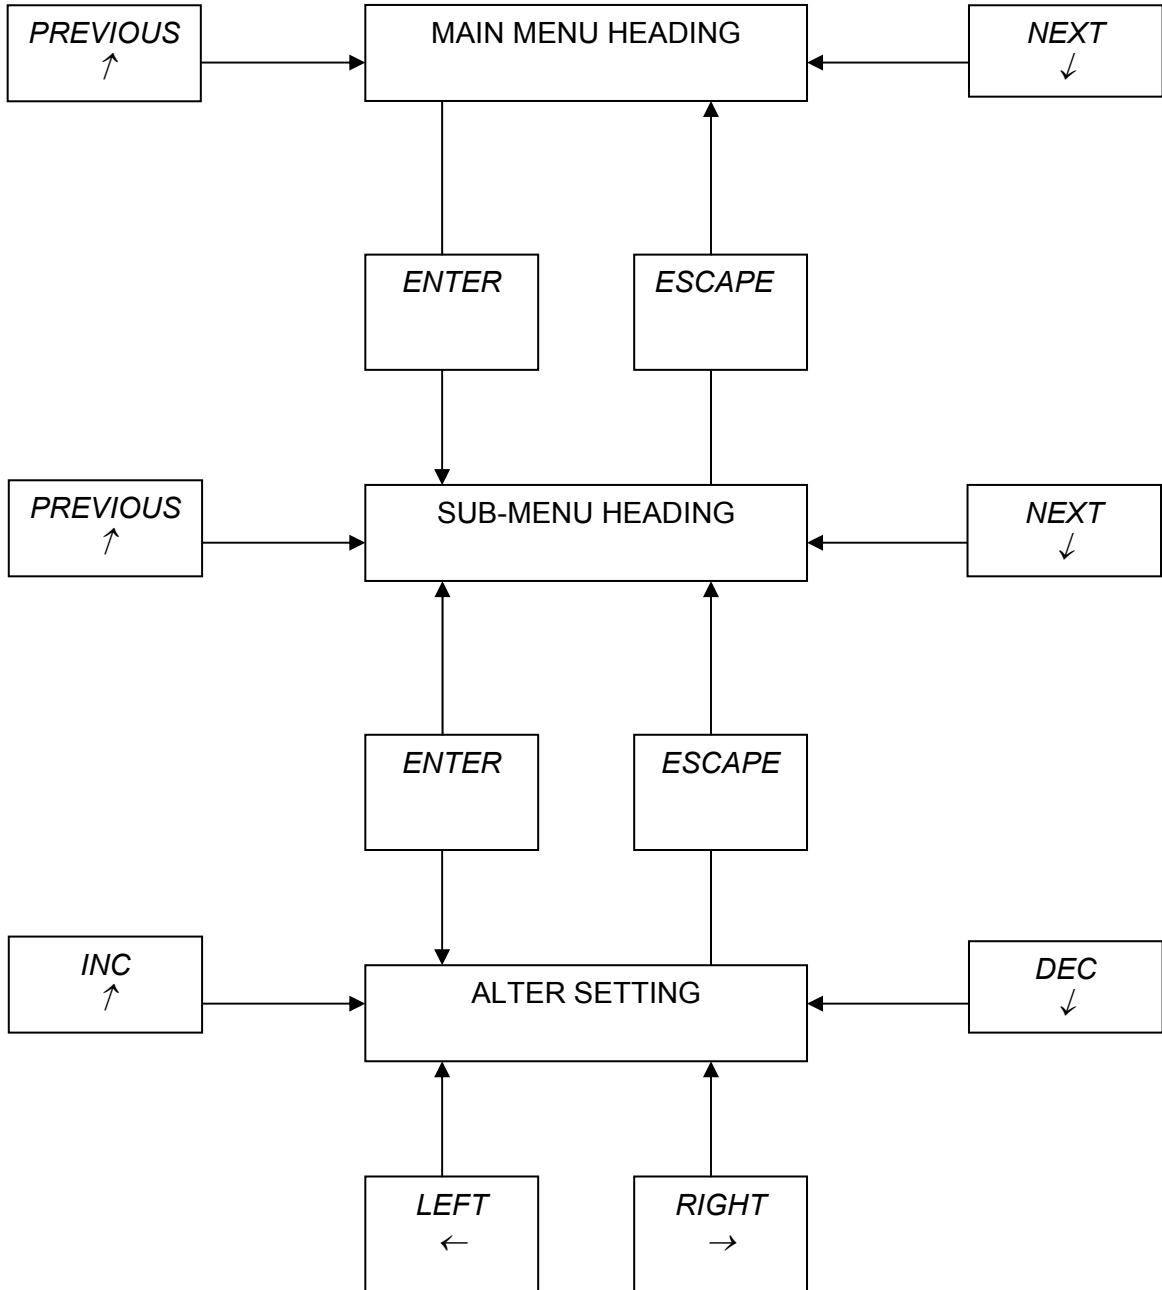

FIG 3.1 ACCESSING AN OPTION SETTING – FLOW DIAGRAM
5. The method of navigating the menu structure is consistent throughout the program. The ↑ (UP) and ↓ (DOWN) keys are used to index through the headings in a particular level or increment / decrement a value. Pressing ENTER will select a submenu or confirm a change whilst ESCAPE will reject a change or return to the previous menu level. The sequence for accessing a menu option and then accessing a submenu within that option and finally selecting and changing a parameter's value, is shown diagrammatically in Fig 3.1.